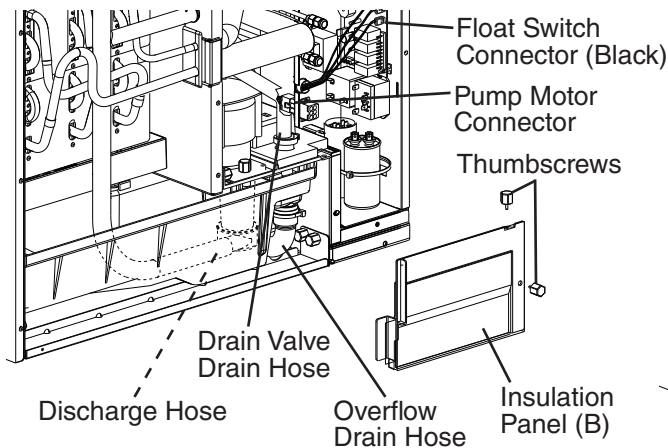

Fig. 18
- 7) Remove the front panel, then remove insulation panel (A) (the large insulation panel in front of the evaporator) by lifting up the panel slightly and pulling it towards you.
- a. Remove the control box cover. Remove the 2 thumbscrews securing insulation panel (B), then remove insulation panel (B). See Fig. 18.